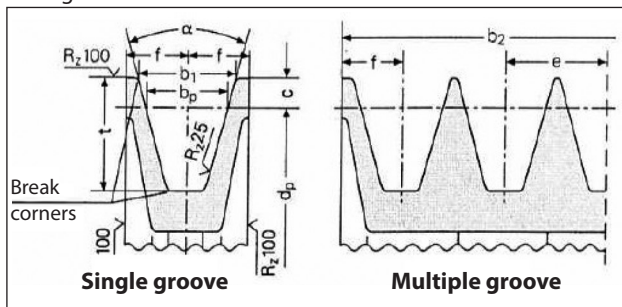

Fig. 9
- Use pulleys with V-belts with the size of the groove required/recommended by the manufacturer of belt used. In the absence of directions, follow Fig. 9 and the table in Fig. 10.